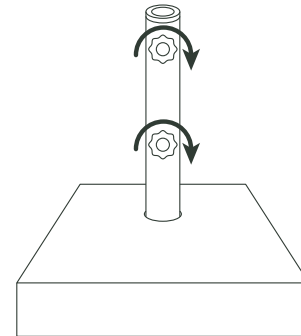

FIG. 11
4. Place the base flat on the ground and screw the knobs into place on the pole. (Fig. 11)